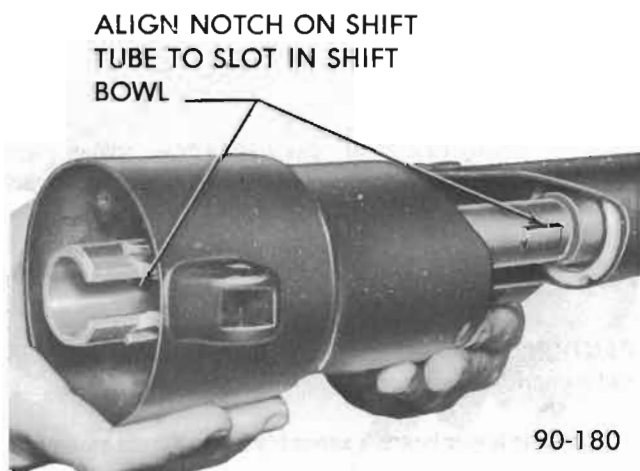

Figure 90-102 - Installing Shift Bowl
8. Install bowl and rotate it to be sure it is seated in bearing. See Figure 90-102. Shift lever must not be installed before installing bowl.
2. Insert the shift tube assembly into the lower end of the jacket and rotate until the upper shift tube key slides into the bowl keyway. See Figure 90-102.